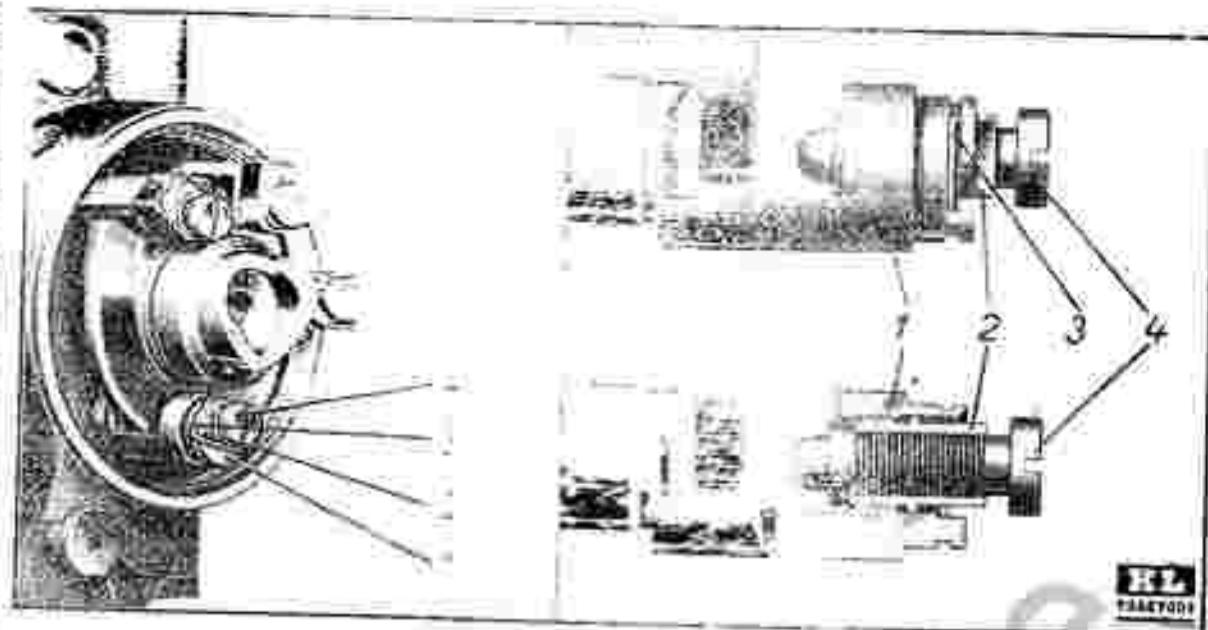

Fig. 20. Adjustment of primary pump stroke.
Quarter turns to adjusting screw, Fig. 20 (3) of the pump	Number of quarter turns
Note that the adjusting screws (3) and (22), Fig. 18, (4) in Fig. 20, are rather hard to turn, because each quarter turn is arrested by a catch.
Although adjustment by setting adjusting screw (4), Fig. 20, does not permit cutting down the oil quantity below the setting of the primary adjustment sleeve (2), the fuel lever can, in fact, cut down automatically by the setting of the fuel lever when the tractor is idling or operating on a light load, to reduce the oil consumption and to prevent overoiling and smoky exhaust.